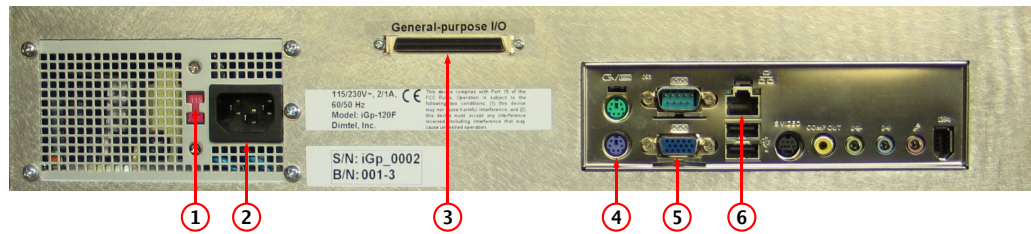

Figure 3: Rear panel features
WARNING: Before connecting power to the unit make sure the voltage selection switch (Fig. 3, item 1) is in the correct position (115 or 230 V).
1. Configure voltage selection switch (Fig. 3, item 1). Mains supply requirements for the iGp-396F are listed in Table 8;
7. Connect a PS/2 keyboard (Fig. 3, item 4);
8. Connect a video monitor (Fig. 3, item 5);
Setup program is included in the **IOC** for configuring the important features of the iGp-396F. The program can be executed locally or remotely. For local execution one must first connect a keyboard (Fig. 3, item 4) and a video monitor (Fig. 3, item 5) to the system. For remote setup, use **ssh** after system bootup to establish connection. In both setup methods the user must login as **root** (initial password is supplied with the system). If the newly received iGp-396F must be configured remotely (when, for example, a keyboard or a monitor is not available), such configuration can be performed using a dedicated network. Set up a network consisting of the iGp-396F, a network hub or a switch, and a remote computer. The iGp-396F is delivered with the following network configuration:
- Make sure no cable is connected to the general-purpose digital **I/O** port (Fig. 3, item 3);